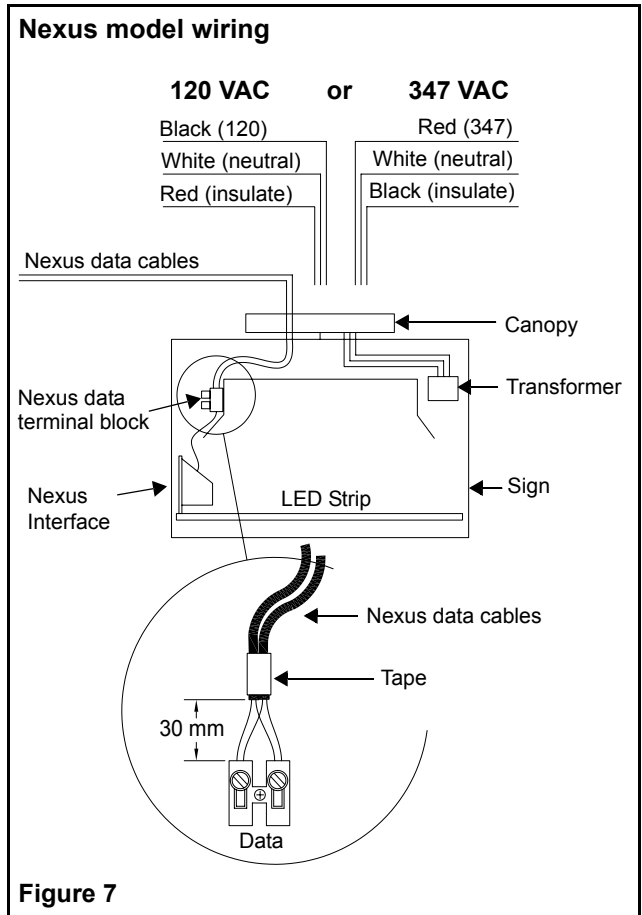

Figure 7
- Note** — For the Nexus models wiring, go to the section “Nexus Models” (see fig. 7).
Refer to figure 7 for the wiring of Nexus models.